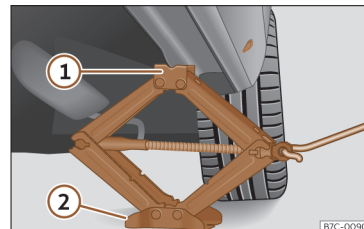

Fig. 39 Cross member: positioning the jack on the vehicle.
- Turn the jack crank handle, located below the strut support point, to raise it until the tab **1** >>> **Fig. 39** is below the housing provided.